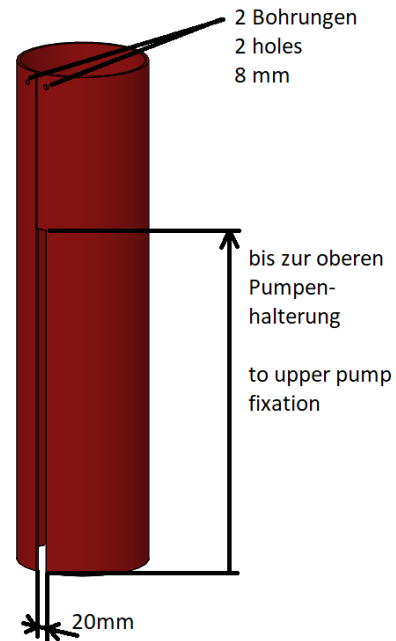

Figure 7: Opening and drill holes
- Widen the cut to 20 mm from the lower edge of the pipe to the upper pump fixing. Determine the exact dimensions on site (figure 7).